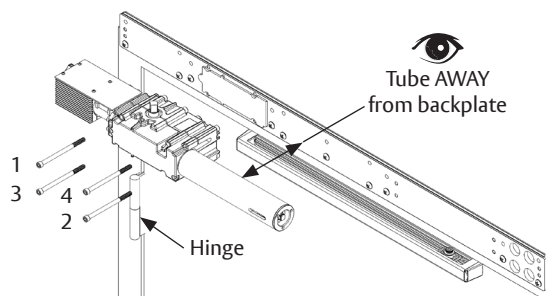

Figure 7 Right Hand Shown
1. Using four (4) screws, install closer body to backplate. (Figure 7)
- Screws must be tightened in a cross pattern until all four (4) screws are tight. (Figure 7)
- Closer body is in proper orientation for PULL SIDE application when tube is AWAY from backplate. (Figure 7)